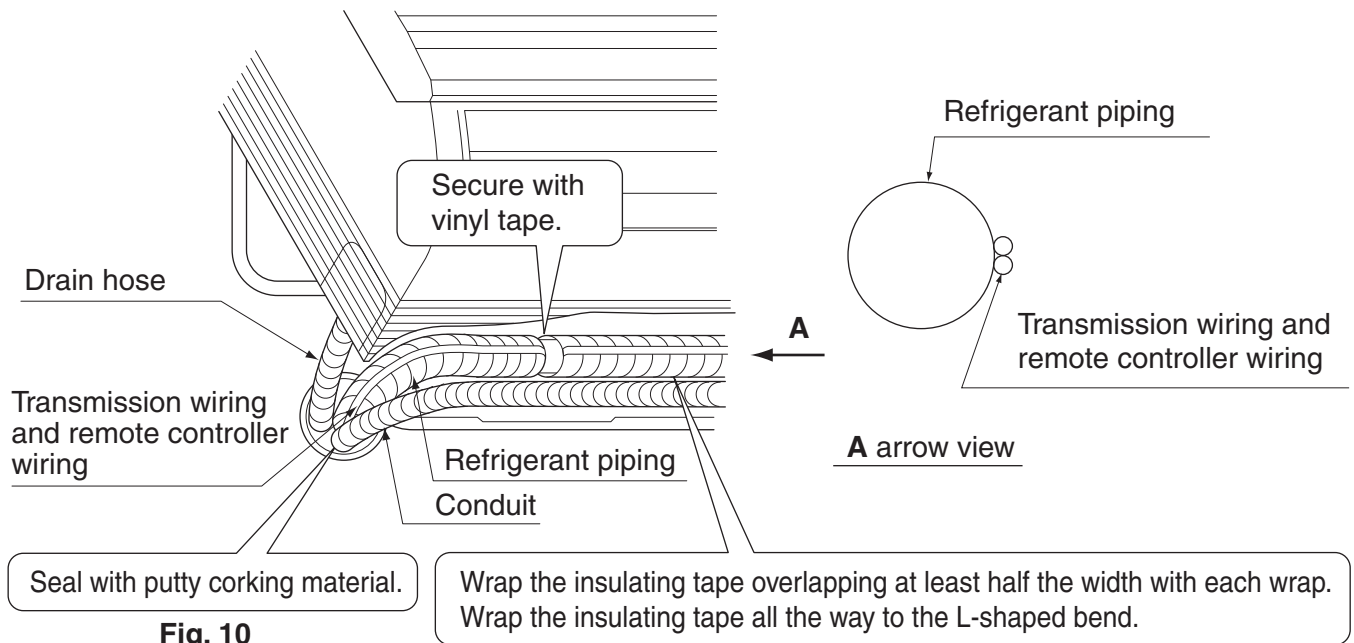

Fig. 10
(7) Pass power supply wiring and ground wiring threaded through conduit (For connecting the conduit to the unit, see "8-1 HOW TO CONNECT WIRINGS"), and remote controller wiring through the wiring guide in through the back of the indoor unit and to the front.
(8) Connect the piping. (See “5.REFRIGERANT PIPING WORK” and Fig. 10)